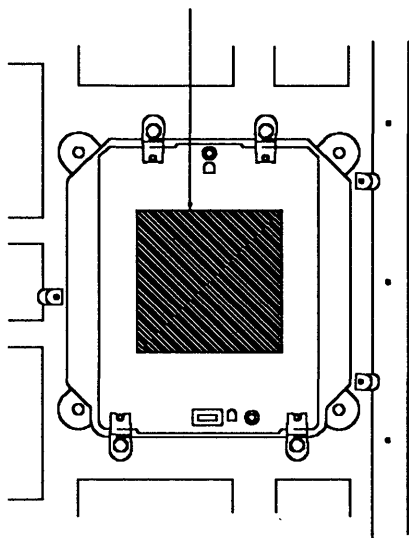

Figure 5-101. TCM Board
1. Inspect the TCM board connectors for dirt, dust or lint as shown in Figure 5-101.